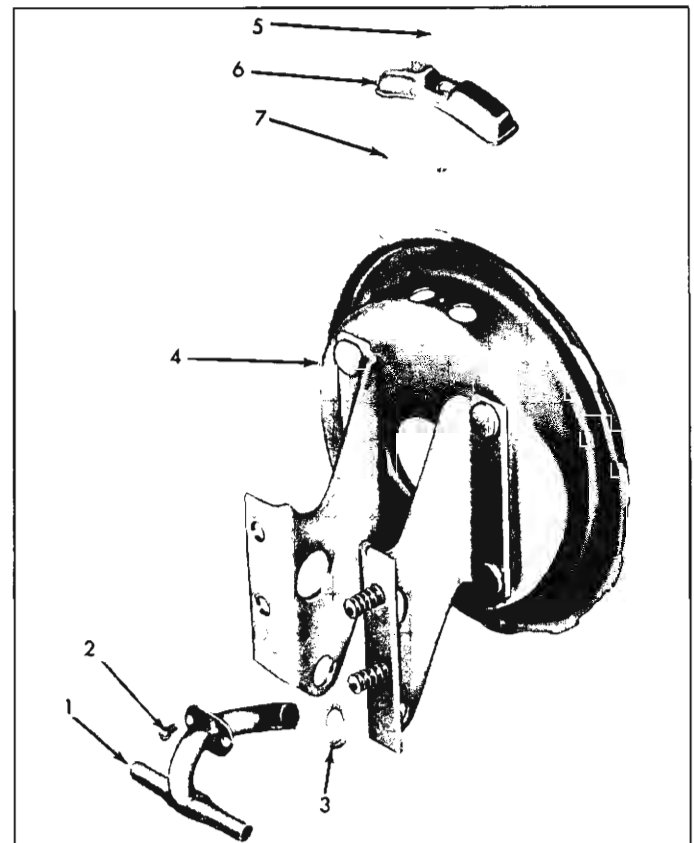

Fig. 43—Rear Shell Assembly—Exploded View
1. The air filter element (7, fig. 43) should either be washed with solvent or replaced with a new element. Position the element (7) and the air filter cover (6) over the two holes in the rear housing (4) and install screw (5).
2. Inspect the exhaust manifold tube assembly (1) for cracks and deformations. Place a new gasket
(3) on the tube assembly, insert in the rear housing, and install two screws (2).